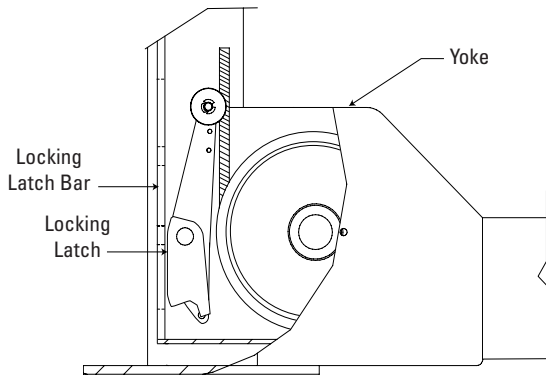

Fig. 24
- K. Actuate air valve and check latch operation on all four corners. The locking latches should pull in beyond yoke ends to clear the latch bars located in all four columns, Fig. 24.